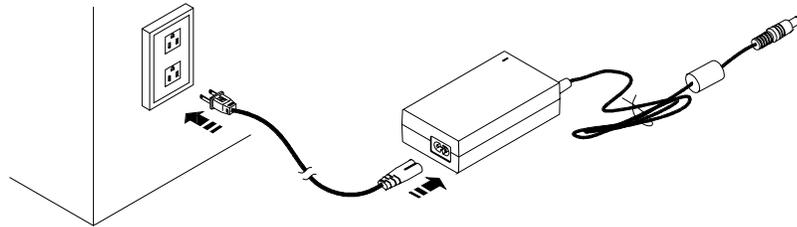
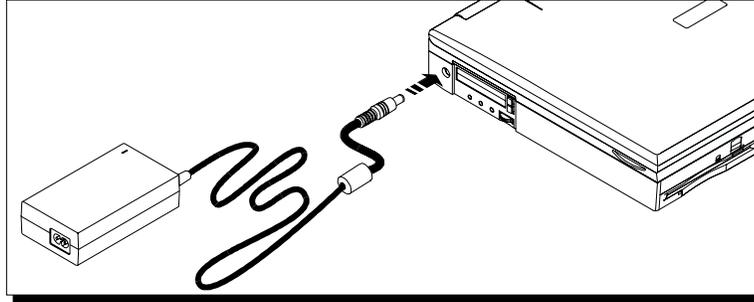

Figure 1-5: Connecting the Power Cord to the AC Adapter
Figure 1-6: Connecting the AC Adapter to the Notebook
There are two possible ways of powering the Notebook. One is by an internal battery module and the second is by connecting the Notebook's AC Adapter. This chapter will focus on the AC connection. *Figure 1-5* and *Figure 1-6* illustrates this connection. For information on using battery power, please refer to Chapter 5.
To power the Notebook by using the external AC Adapter, please refer to *Figure 1-5*, *Figure 1-6* and the following instructions:
1. Insert the end of the AC Adapter output cable into the Notebook's AC port. *Figure 1-6* illustrates this connection. Do not force a connection.